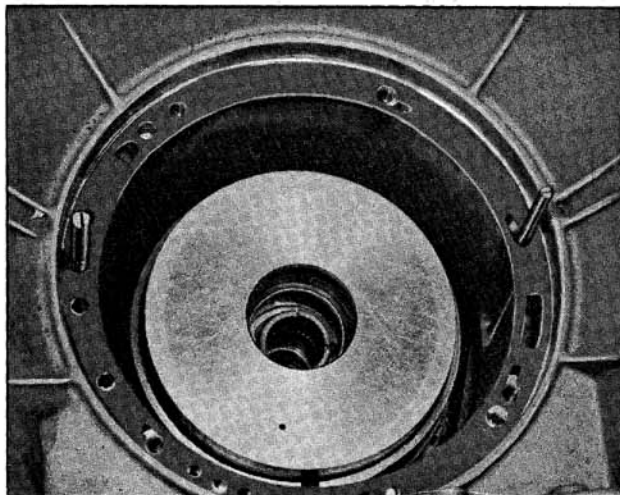

Fig. 6-511 Installing Oil Pump Gasket and Guide Pins
4. Install new pump gasket and guide pins. (Fig. 6-511)